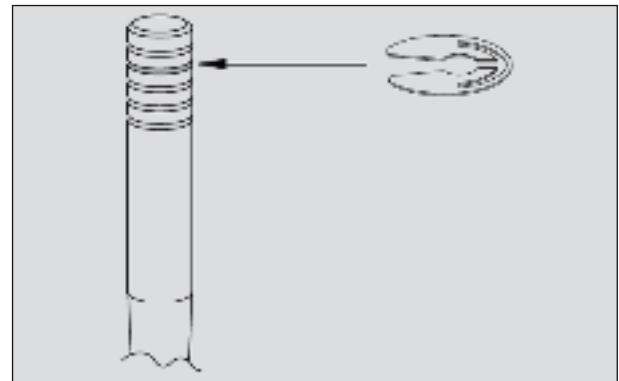

Fig. 4.28
- Do not change the position of the E-clip on jet needle (Fig. 4.28) and (2nd from the top notch) jet sizes which will have effect on the engine performance and lead to premature wear of engine parts, loss in fuel economy and poor pick-up.